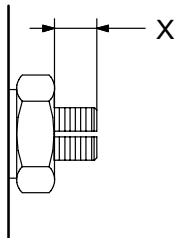

Fig. 5-3
4. **Mechanical pressure control valves:** Measure insertion depth (Fig. 5-3) of setting screw (dimension X) and make a note. This ensures that insertion depth can be reproduced. Then close pressure control valve.